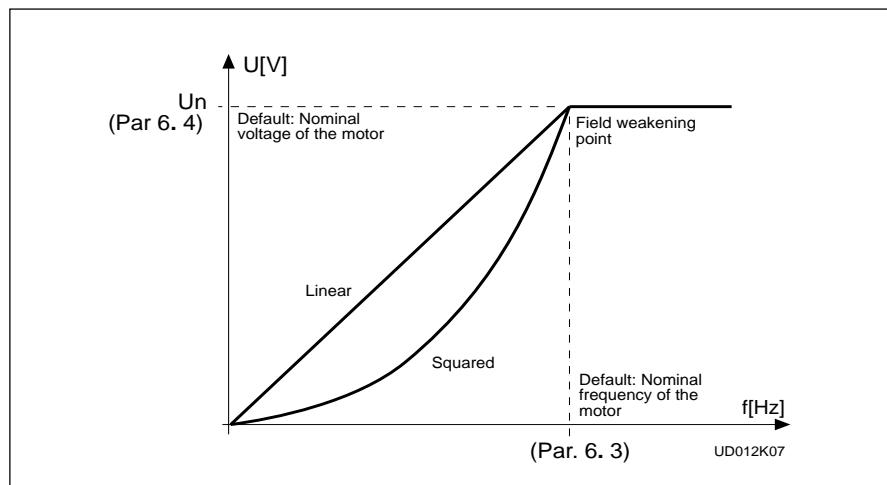

Figure 2.4-1 Linear and squared U/f curves.
- Linear: The voltage of the motor changes linearly with the frequency in the constant flux area from 0 Hz to the field weakening point (par. 6. 3) where the nominal voltage is also supplied to the motor. See figure 2.4-1.
Squared: The voltage of the motor changes following a squared curve form with the frequency in the area from 0 Hz to the field weakening point (par. 6. 3) where the maximum voltage is also supplied to the motor. See figure 2.4-1.